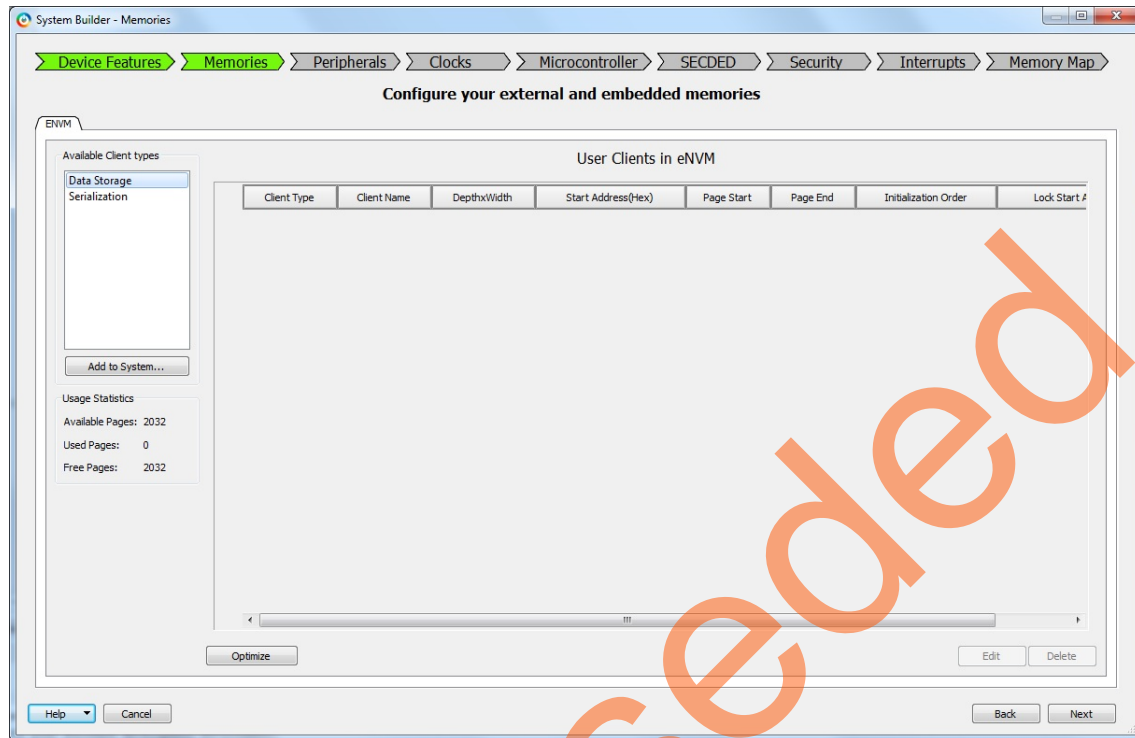

Figure 38 • System Builder - Memory eNVM
15. The eNVM configurator window is displayed as shown in Figure 38.